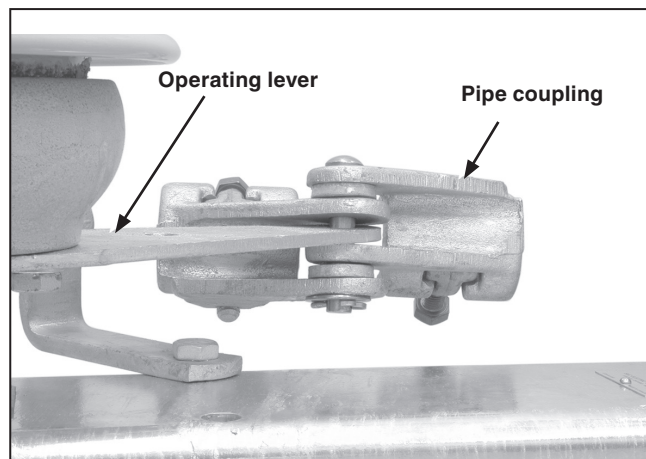

Figure 3. Assembling the pipe coupling to the operating lever—interphase pipe on both sides of the operating lever.
STEP 2. Attach pipe couplings to the operating lever of each switch pole. Each pipe coupling includes 1/4-inch (6-mm) and 3/8-inch (10-mm) spacers. Position the spacers, included with each coupling, as shown in the section views on the erection drawing. See Figures 3 and 4.